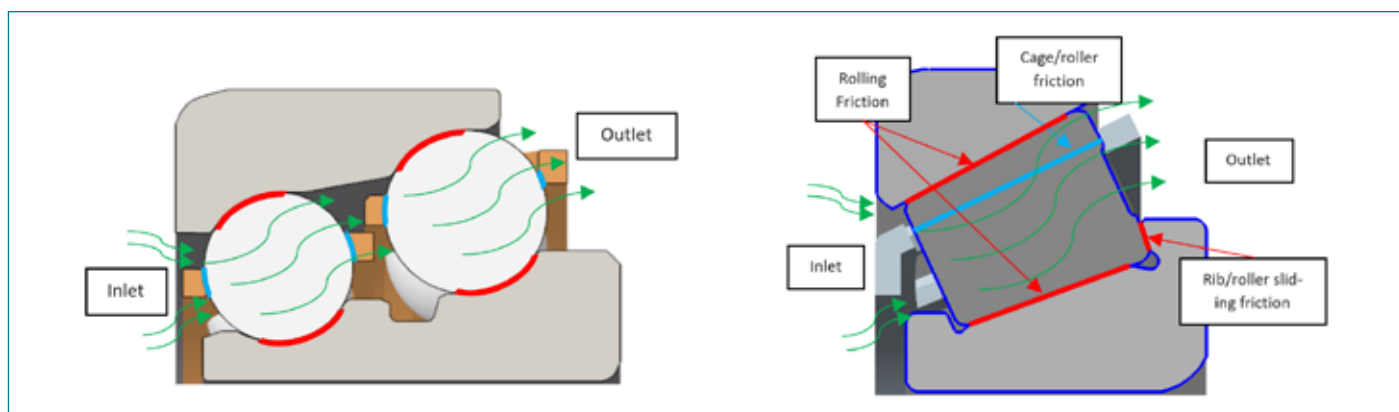

Figure 2 TBB friction elements (Left) vs. TRB friction elements (Right)
- › Rolling/sliding friction at the raceway/ball contact – represented by red segments in figure 2.
- › Oil churning losses which is lubricant resistance caused by excessive lubrication at higher bearing speeds – represented by the green arrows in figure 2.
- › Friction at the ball-cage interface – though represented by the blue segments in figure 2, it is out of scope of this research.
Churning/splashing losses in bearings are caused by excessive lubricant through the bearing at high speeds. In many rear axle applications, the ring gear flings the lubricant from the axle sump through an oil channel in the axle housing between the two pinion bearings (Figure 4). As mentioned in the introduction section, most axle manufacturers specify their oil fill levels to prevent seizure of TRBs in adverse conditions like high torque, cold start, or driving on a grade where the tail bearing is at risk of oil starvation. For example, some OEM’s use an angular contact ball bearing or a TBB in the tail position to avoid this TRB limitation. In most cases, these TRB-based practices are unnecessarily carried over to axles with TBBs which negatively impacts overall axle efficiency. TBBs require less oil for lubrication compared to TRBs due to the rolling point contact and the absence of the sliding rib contact (Figure 2). This provides the opportunity for an axle manufacturer or OEM to reduce oil fill levels to minimize overall churning losses (including gear churning losses!). This can be achieved by reducing the sump fill levels, optimizing oil channels in the axle housing, or a combination of the two.